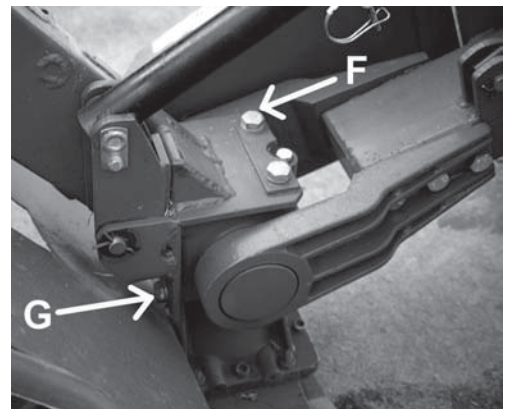

Figure 5
7. Install the cover frame on the cutter bar using two M16 x 35mm bolts (F), locking plate and lockwashers at the top and three M16x35mm bolts and lockwashers (G) installed on the side. (See **Figure 5**.) Torque the M16 bolts to 100 FT-LBS. Use a thread-locking compound on top of 16mm bolts.(Note: Included with kit is a packet of locktight.)